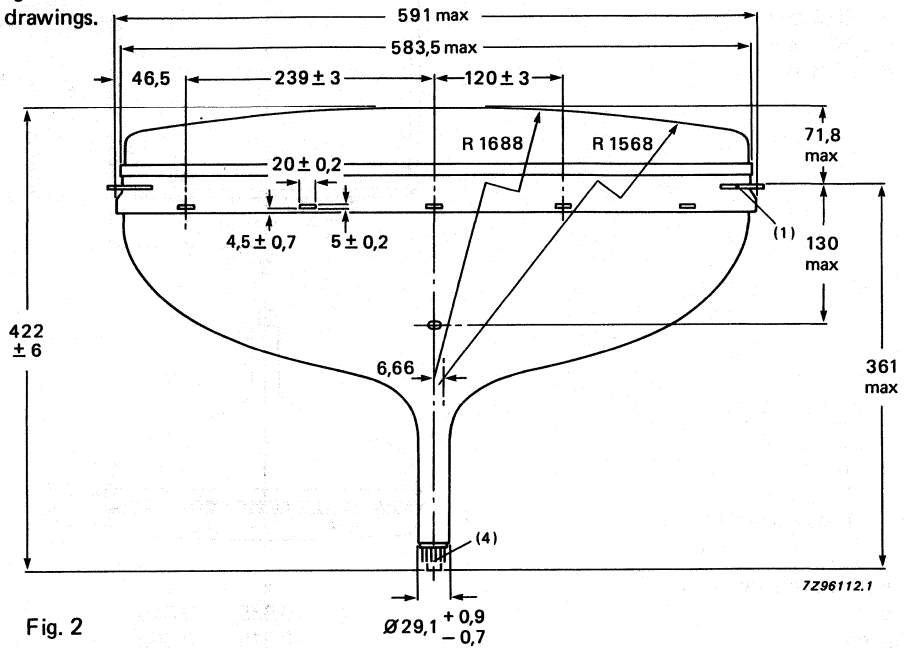

Fig. 2
**MECHANICAL DATA** (see also the figures 2 to 9 inclusive)